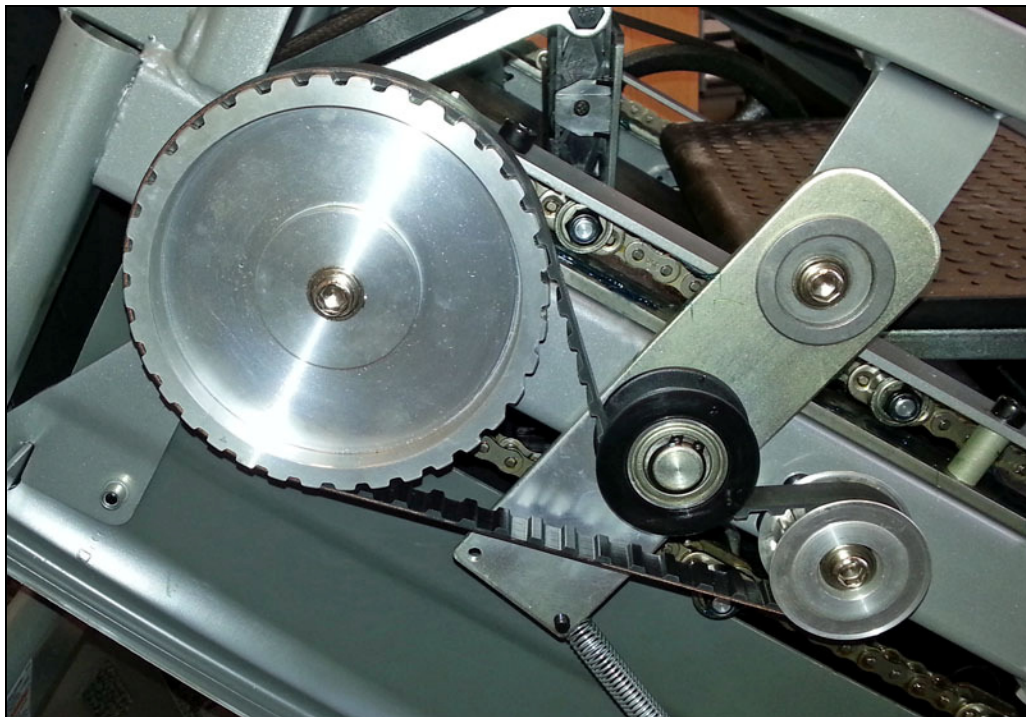

Fig. 1
1. Remove all shrouds. The inside mechanism will be exposed (Fig. 1)